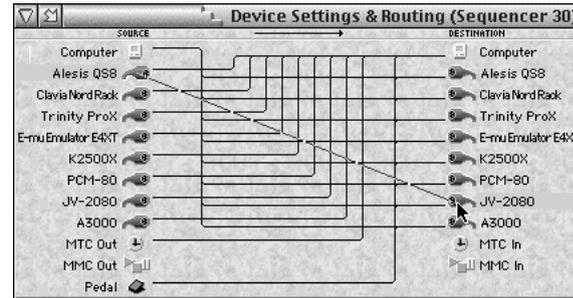

Figure 6-10: Routing MIDI data from one piece of gear to another.
- 1 Click the source cable icon on the left and drag to the destination cable icon on the right as shown below in Figure 6-10.